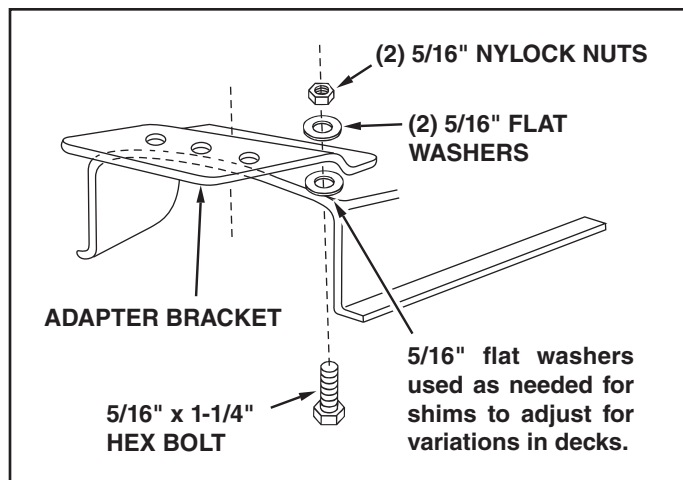

FIGURE 16
- Assemble the adapter bracket to the deck using two 5/16" x 1-1/4" hex bolts, 5/16" flat washers and 5/16" nylock nuts. See figure 16.
NOTE: It may be necessary to use extra 5/16" flat washers to shim under the bracket next to the deck surface. Ten extra washers have been furnished as shims. See figure 16.